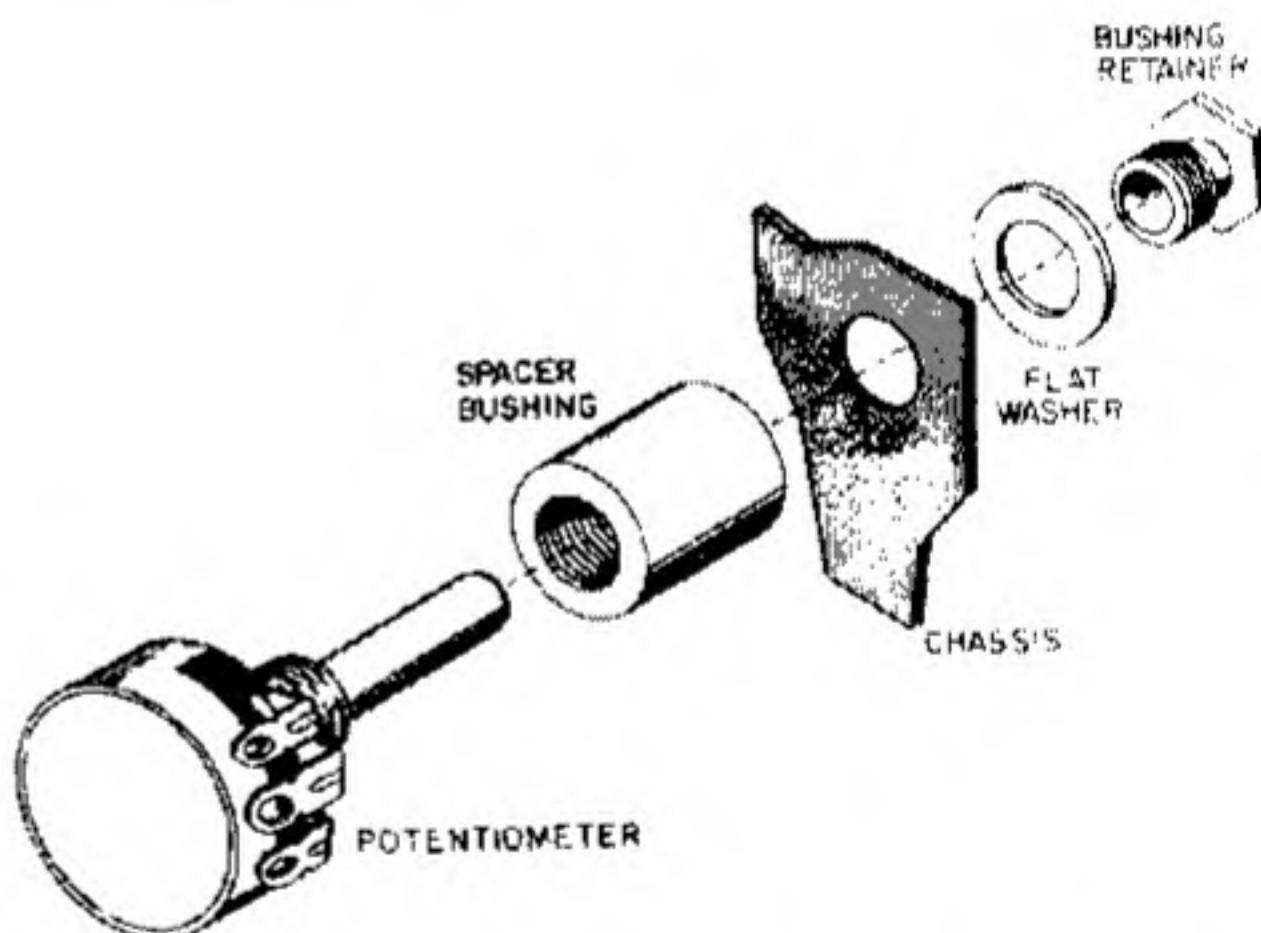

FIGURE 5. MOUNTING THE POTENTIOMETER
- Note that R-5, the 500Ω potentiometer, has three **dummy** terminals marked with *color dots*. Mount R-5 following the assembly details shown in Figure 5. Position the dummy terminals so that they face the three pin jacks.